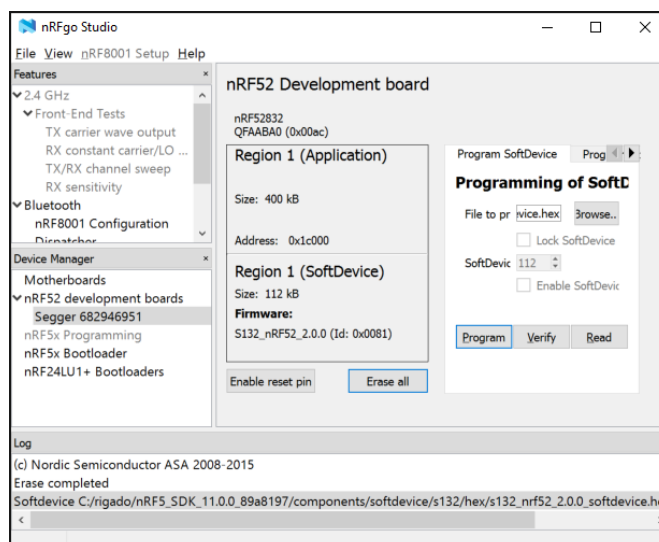

Figure 4 – nRFGo Studio SoftDevice Window
| Figure 4 – nRFgo Studio SoftDevice Window | 5 |
6. After programming, nRFGo Studio should look similar to Figure 4 below: